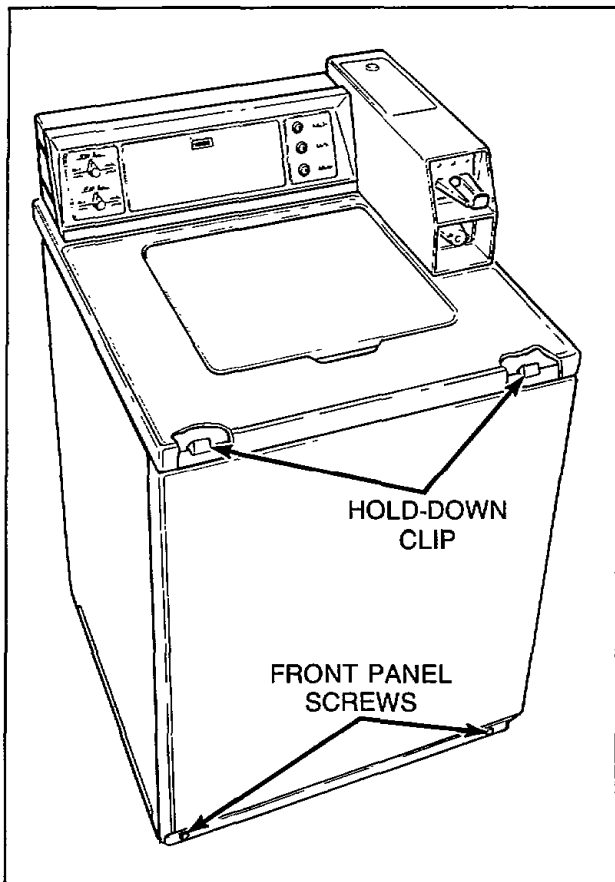

Figure 14
13. **FRONT PANEL** (Refer to Figure 14)
- a. Remove two screws from bottom edge of front panel, *Figure 14*.
- b. Pull bottom of panel away from washer until hold-down clips (located on top flange of panel) disengage from slots in cabinet top, *Figure 14*.